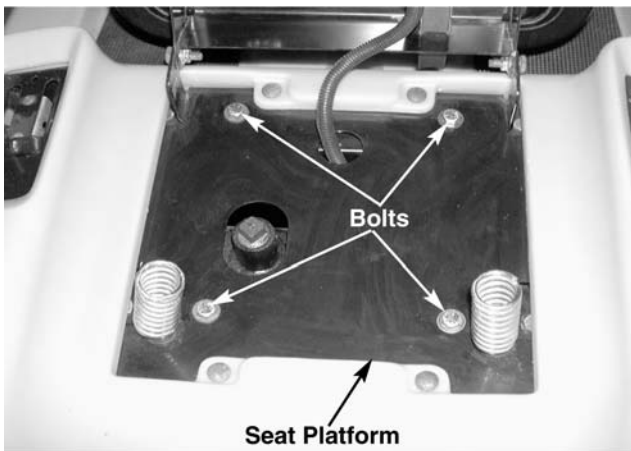

Figure 10-7.
14. Remove all four hex bolts securing the seat platform to the upper frame rails using a 9/16 socket. See Figure 10-7.